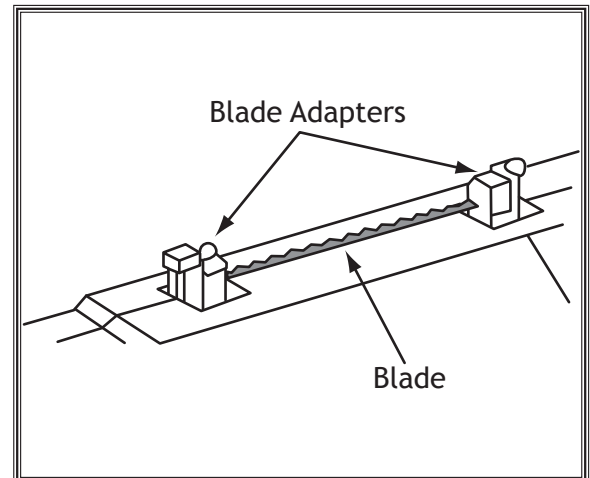

Figure 8. Blade with the blade adapters inserted into the adapter indents.
6. Without letting the adapters slip off the ends of the blade, place them in the indents on the top arm, as illustrated in **Figure 8**, with the set screws that are in contact with the blade facing down.